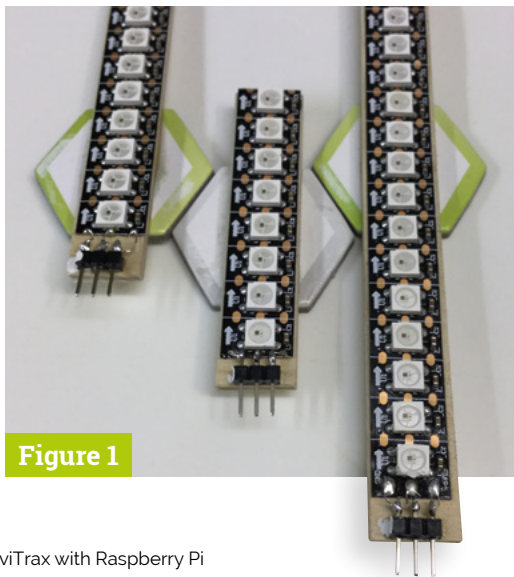

Figure 1
- ▶ **Figure 1** Three lengths of LED strip
For the three lengths of track used in the starter pack, we made 8-, 14-, and 20-LED strips. We glued a three-pin connector on the end and wired it up to the strip. Then we glued a cardboard hexagon to the middle of the strip, so the strip went across the flats of the hexagon. For the 8- and 20-LED strips, the hexagon was glued in the middle of the strip. But for the 14-LED strip, we glued the hexagon 10mm from one end because it only spans two hexagon positions – see **Figure 1**.